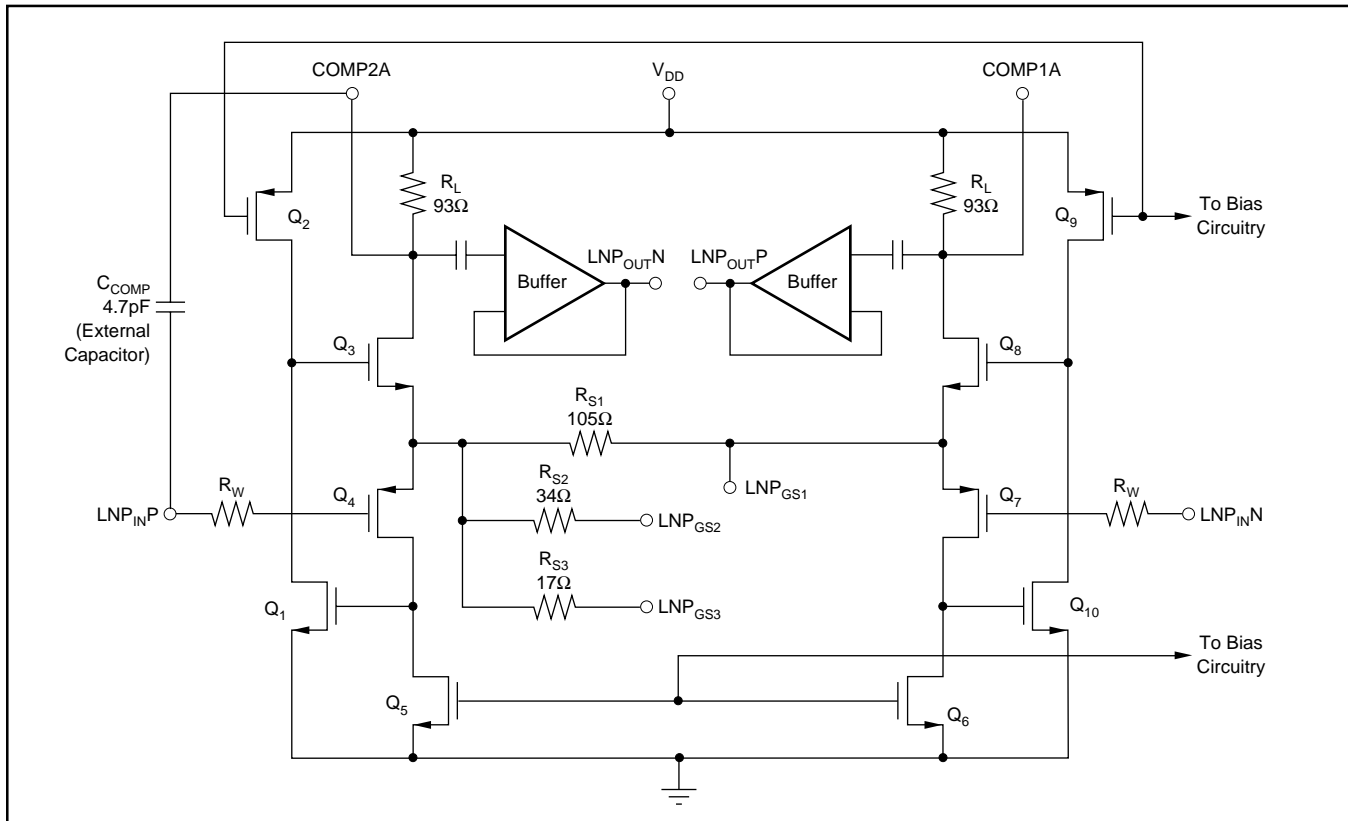
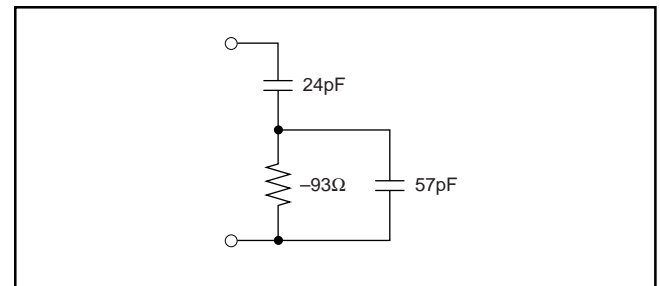

FIGURE 4. Schematic of the Low Noise Preamp (LNP).
FIGURE 11. VCA2613 Input Impedance.
The LNP is designed to achieve a low noise figure, especially when employing active termination. Figure 4 is a simplified schematic of the LNP, illustrating the differential input and output capability. The input stage employs low resistance local feedback to achieve stable low noise, low distortion performance with very high input impedance. Normally, low noise circuits exhibit high power consumption due to the large bias currents required in both input and output stages. The LNP uses a patented technique that combines the input and output stages such that they share the same bias current. Transistors Q₄ and Q₅ amplify the signal at the gate-source input of Q₄, the +IN side of the LNP. The signal is further amplified by the Q₁ and Q₂ stage, and then by the final Q₃ and R_L gain stage, which uses the same bias current as the input devices Q₄ and Q₅. Devices Q₆ through Q₁₀ play the same role for signals on the -IN side.
It is also possible to create other gain settings by connecting an external resistor between LNPG_{S1} on one side, and LNPG_{S2} and/or LNPG_{S3} on the other. In that case, the internal resistor values shown in Figure 4 should be combined with the external resistor to calculate the effective value of R_S for use in Equation (1). The resulting expression for external resistor value is given in Equation (2).
where R_{EXT} is the externally selected resistor value needed to achieve the desired gain setting, R_{S1} is the fixed parallel resistor in Figure 4, and R_{FIX} is the effective fixed value of the remaining internal resistors: R_{S2} , R_{S3} , or $(R_{S2} \parallel R_{S3})$ depending on the pin connections.
For greatest flexibility and lowest noise, the user may wish to shape the frequency response of the LNP. The COMP1 and COMP2 pins for each channel (pins 10 and 11 for channel A, pins 26 and 27 for channel B) correspond to the drains of Q_3 and Q_8 , see Figure 4. A capacitor placed between these pins will create a single-pole low-pass response, in which the effective R of the RC time constant is approximately 186Ω .
The VCA2612 and the VCA2613 are very similar in performance in all respects, except in the area of noise performance. See Figure 4 for a schematic of the LNP. The improvement in noise performance is because the input wiring resistor (R_W) of the VCA2613, see Figure 4, has been considerably reduced compared to the VCA2612. This brings the input noise of the VCA2613 down to $1.0\text{nV}/\sqrt{\text{Hz}}$ compared to VCA2612's $1.25\text{nV}/\sqrt{\text{Hz}}$. The input impedance at the gate of either Q_4 or Q_7 can be approximated by the network shown in Figure 11. The resistive component shown in Figure 11 is negative, which gives rise to unstable behavior when the signal source resistance has both inductive and capacitive elements. It should be noted that this negative resistance is not a physical resistor, but an equivalent resistance that is a function of the devices shown in Figure 4. Normally, when an inductor and capacitor are placed in series or parallel, there is a positive resistance in the loop that prevents unstable behavior.